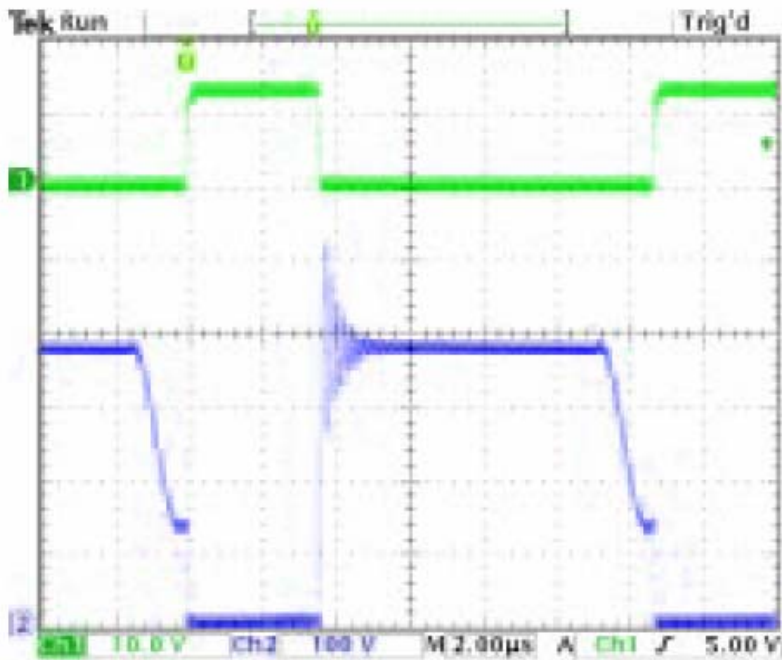

Figure 4. Gate Driver and Drain Voltage at Full Load.
3.3 Increase load current to 2.0 A. Gate driver and drain voltage should be as in Figure 4. Verify that output voltage is 12.0 V \pm 1%. Input current should not exceed 200 mA.